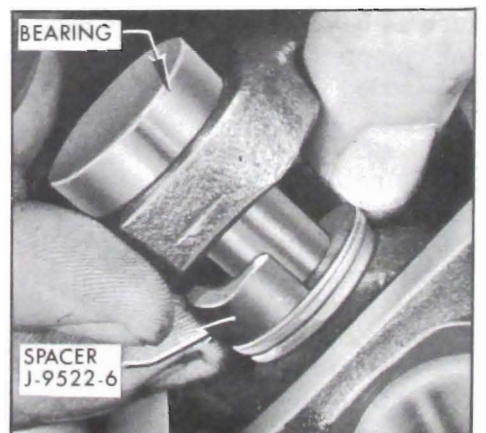

Figure 6-63—Installing Spacer
4. Release the pump and remove the propeller shaft. Install Spacer J-9522-6 over the spider journal at the space provided with bearing forced partially through the yoke. See Figure 6-63. Reposition the propeller shaft in the fixture as before and force the bearing completely out of the yoke with the added assistance of the spacer.